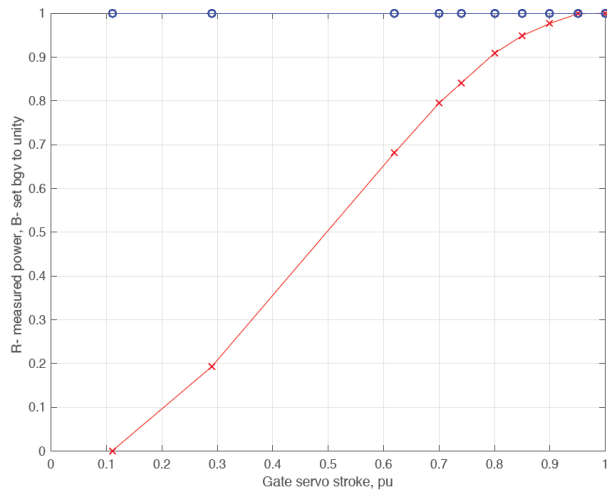

Figure 6: Typical power-gate and blade-gate curves for Francis turbine
- (i) For a Francis turbine all the points on the blade flow area curve, bgv, curve must be at be (g,1). Figure 6 shows typical curves for a Francis turbine